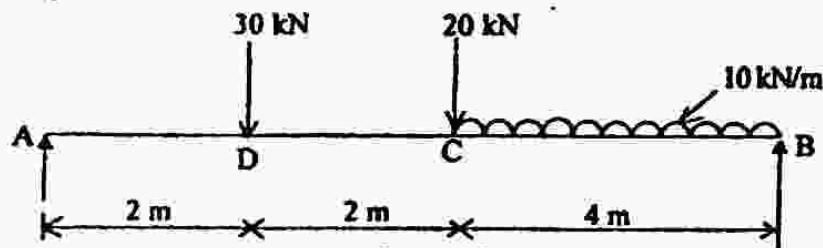

Fig. 6
10. The simply supported beam shown in fig. 6 carries two concentrated loads and a uniformly distributed load. Calculate the deflection at D and C point. Take $E = 200 \text{ GPa}$ and $I = 200 \times 10^6 \text{ mm}^4$. (13)